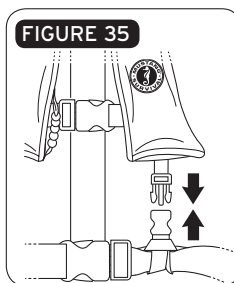

FIGURE 35
4. Attach male buckle C to the corresponding female buckle on the left side of the chest belt (Figure 35).